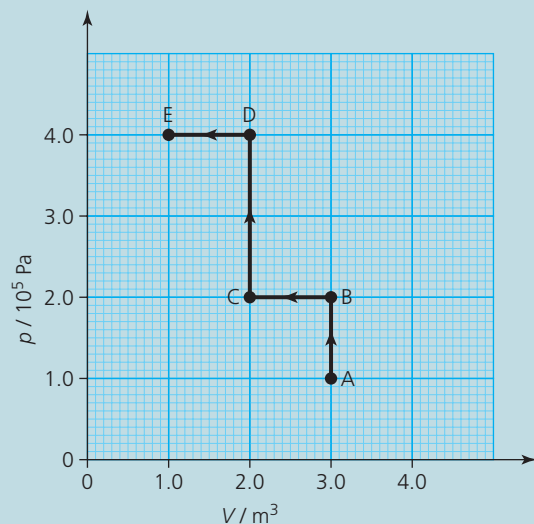

Figure 14
- 16.** A gas is compressed by a sequence of constant-volume and constant-pressure processes, as shown in the indicator diagram in Figure 14. Calculate the work being done on the gas in total from A to E.